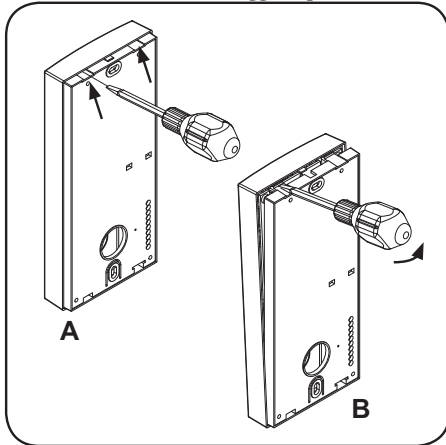

Fig.1
- As shown in Fig 1, looking at the rear of the intercom, insert the tip of a flat blade screwdriver into one of the two openings (Fig 1A) then slightly move the screwdriver in an upward direction to release the front from the back plate and opening the intercom unit (Fig 1B). Take care! The back plate of the intercom houses the pcb connection board which is normally connected to the pcb in the front of the intercom by the ribbon cable, the ribbon cable should not be connected when first opened.